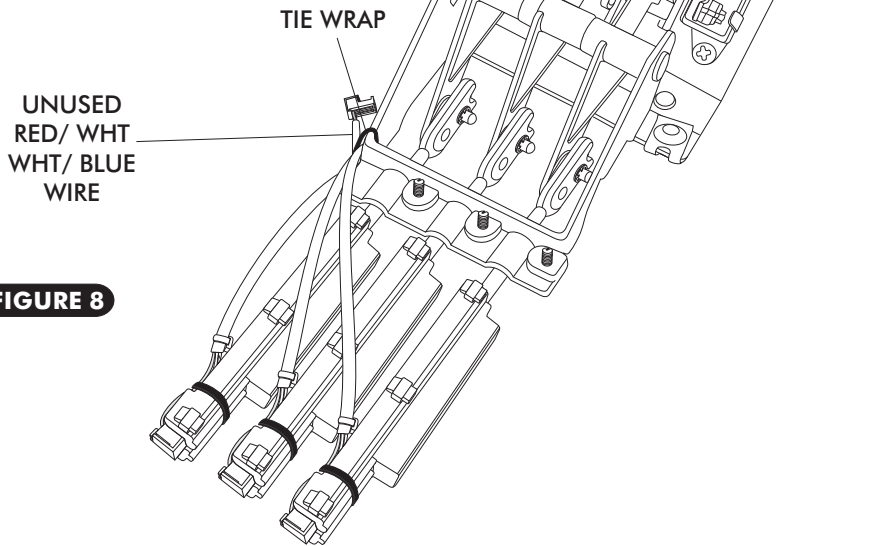

FIGURE 8
- USING THE SUPPLIED TIE-WRAPS, TIE THE WIRES TO THE CONTROL PANEL AS SHOWN IN FIGURE 8 BELOW. CONFIRM THAT WIRES ARE SECURED AND DO NOT INTERFERE WITH LEVER OPERATION OR SLIDE POT ASSEMBLY.